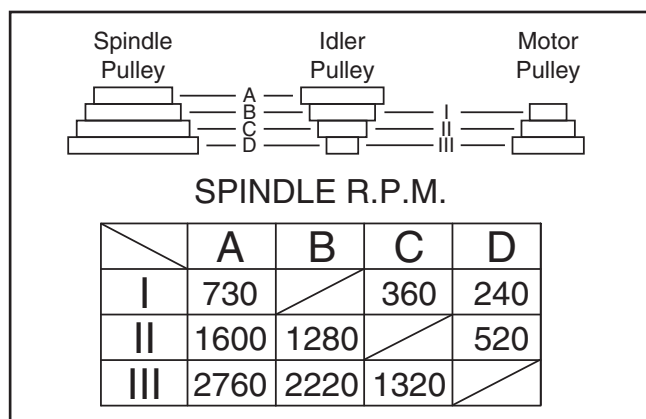

Figure 27. V-belt configuration chart.
5. Refer to the V-belt configuration chart in **Figure 27** (also found on the inside of the V-belt cover) to configure the V-belts on the pulleys for the selected spindle speed.
Step 4: Find the nearest spindle speed in the V-belt configuration chart in **Figure 27**, which is 360 RPM.